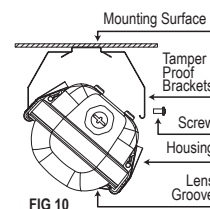

FIG 10
2. Insert the Housing into the Tamper Proof Bracket, as shown in Fig. 10, and fasten it onto the Lens Groove.
3. Fasten the Housing onto the Tamper Proof Bracket using the provided screws (2 per bracket), as shown in Fig. 10.